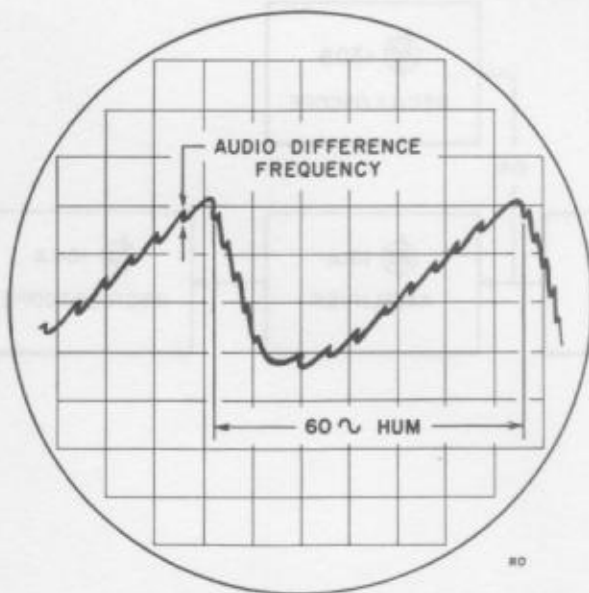

Figure 2. Oscillogram of Difference Frequency near Zero Beat of Unknown Signal and Model 606A Signal Generator Harmonic
- 5) Some noise should appear on the screen. Adjust the vertical sensitivity of the oscilloscope so that the noise amplitude is about 1/4 cm. Depending on the location and the equipment, there may be a certain amount of power line hum present on the screen. The oscilloscope when synchronized on the line frequency will give a display similar to figure 2.